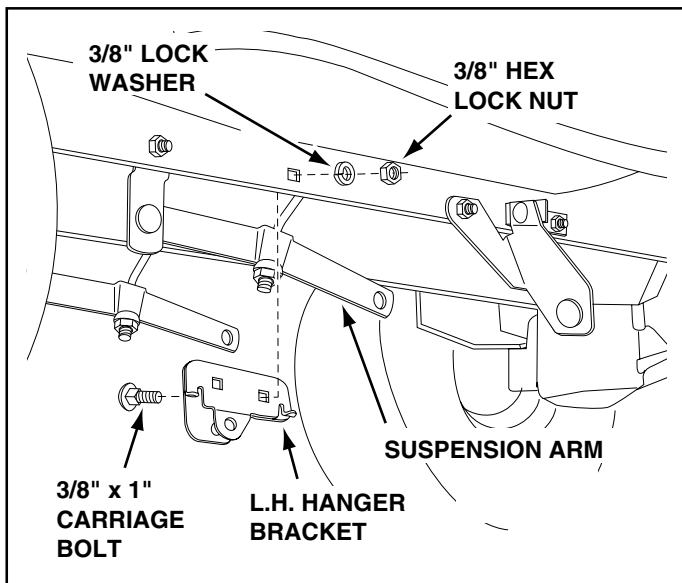

FIGURE 8 LEFT SIDE VIEW
On Tractors Without Foot Rest Brackets (Figure 8)
3. Find the empty hole beneath the foot rest. Attach the L.H. Hanger Bracket (marked "L") to the inside of the frame using a 3/8" x 1" carriage bolt (head to inside), a 3/8" lock washer and a 3/8" hex lock nut. See figure 8. Repeat for the R.H. side.